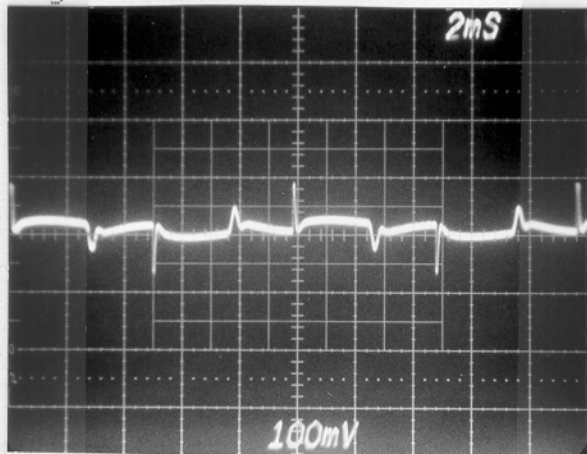

Fig. 17. Bal Out-R(J3) pin 3 (S5 out)
- 5) Look at balance out-R(J3) pin 3 (center), compare to Fig. 17.
- 9) Look at balance out-R pin 2(left). Spike should be slightly smaller than that in Fig. 17.
- 11) Compare balance out-L(J4) pins 2-3 to Fig. 17.